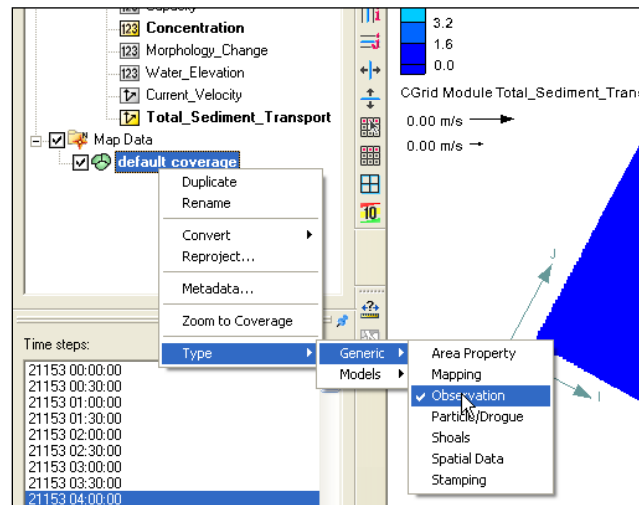

Figure 8.3.1. Changing a Map coverage type to Observation.
2. Right-click on the default coverage and select *Type | Generic | Observation* to set up the map module for drawing an observational arc (Figure 8.3.1)